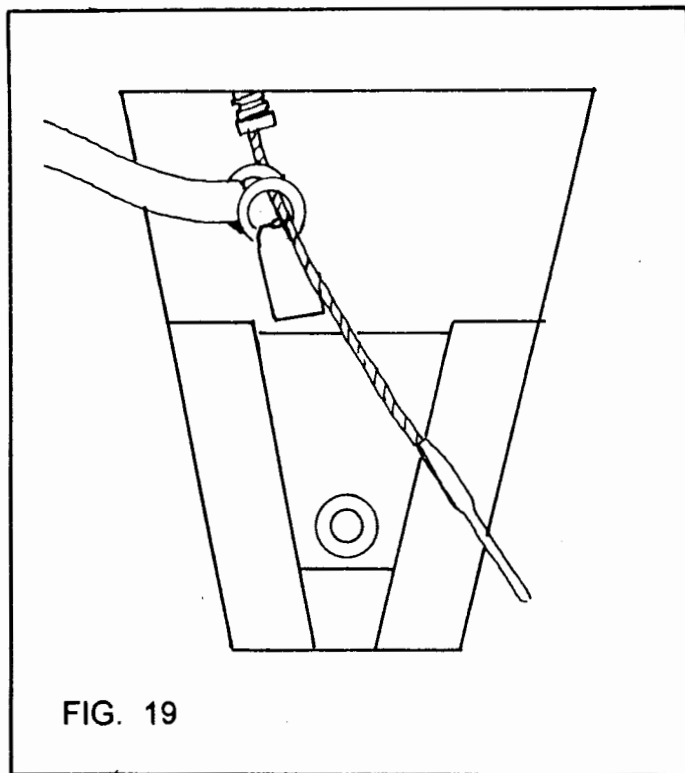

FIG. 19
Immediately after exiting the end of its housing, the reserve ripcord must pass thru the small ring on the end of the reserve static line (RSL), and then thru the same type of ring mounted on the reserve top flap (see FIG. 19). The velcro on the RSL should then be mated to the velcro track provided on the rear surface of the reserve left front riser. Route the RSL over the shoulder so that the end with the bronze snap-shackle exits from under the reserve riser just behind the main support ring of the harness. (See FIG. 20.) There should be about three to four inches of the RSL remaining so that when the DOLPHIN is assembled with a main canopy, the snap-shackle can be attached to the ring on the left main riser.
18) Fold the pilot chute in thirds as shown in FIG. 19.